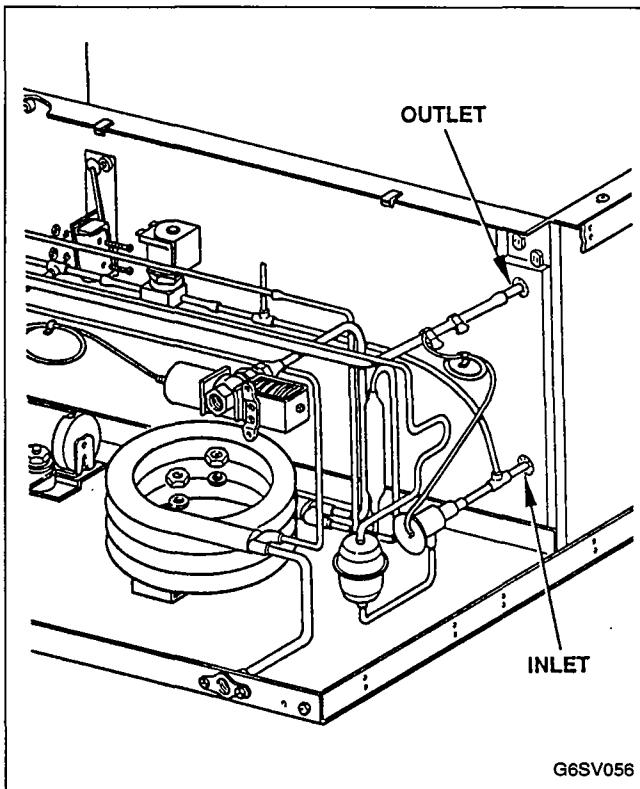

FIGURE 58. TXV OPERATIONAL CHECK
- c. TXV operational check, Figure 58.